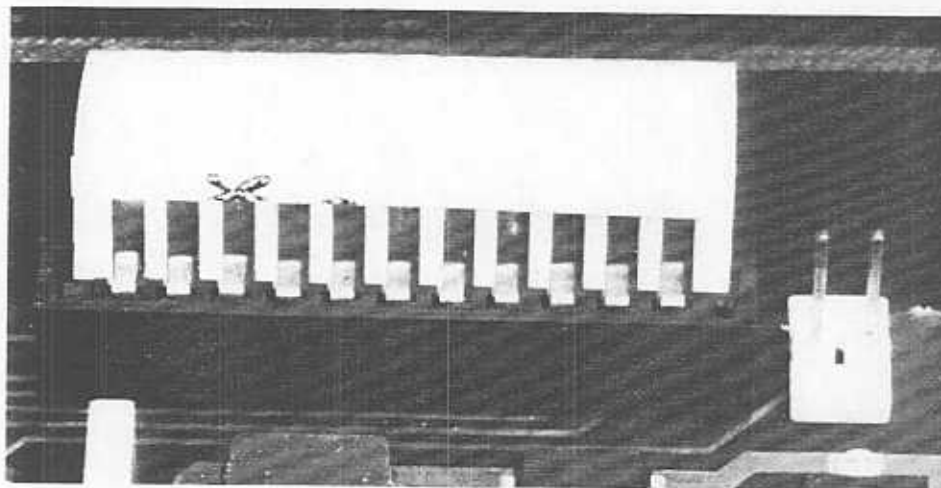

Figure 3-1. Aligning Cable Contacts
- a. Carefully align the contacts of the cable with the contacts of its connector, as shown in figure 3-1. The cable contacts must face the connector contacts.